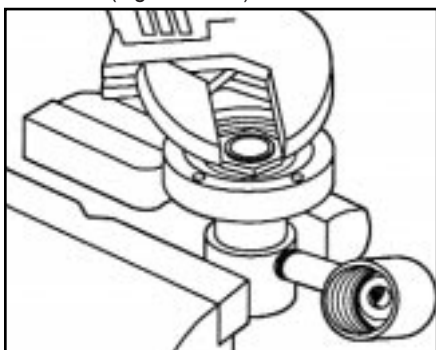

Figure 49
10. Clamp the oil chamber in the bench vise, and use the adjustable wrench to remove the faceplate locknut, spring retainer sleeve, and faceplate from the oil chamber. (Fig. 49 & 50)